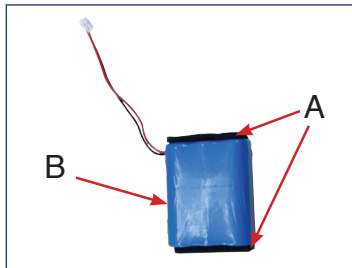

Figure 2
- 2) Affix the two black foam (A) cushions on either side of the battery (B), figure 2.